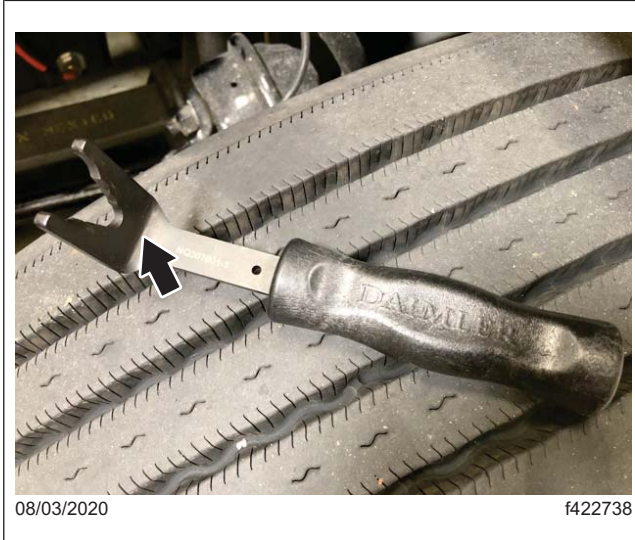
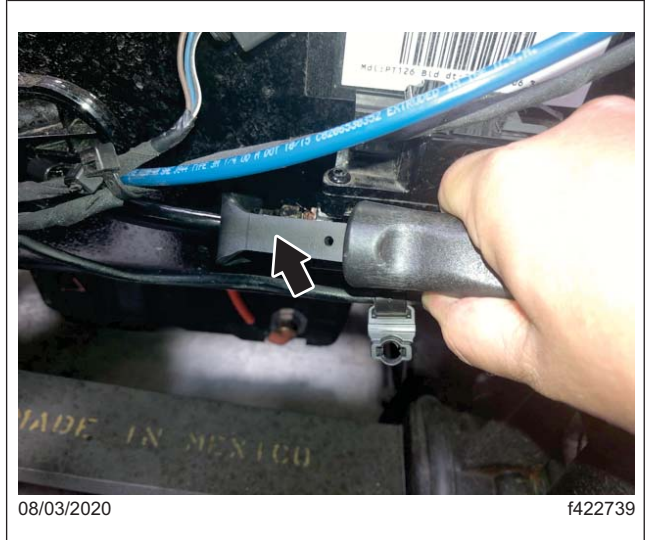

Fig. 5, Special Tool (NQ307001-1)
Fig. 6, Disconnecting the Plastic Air Line
4. Use special tool (NQ307001-1) supplied in special tool kit NQ307001, referenced in Tool Letter 18 TL-15, to disconnect the plastic air line from the modulator valve. See Fig. 5 and Fig. 6.